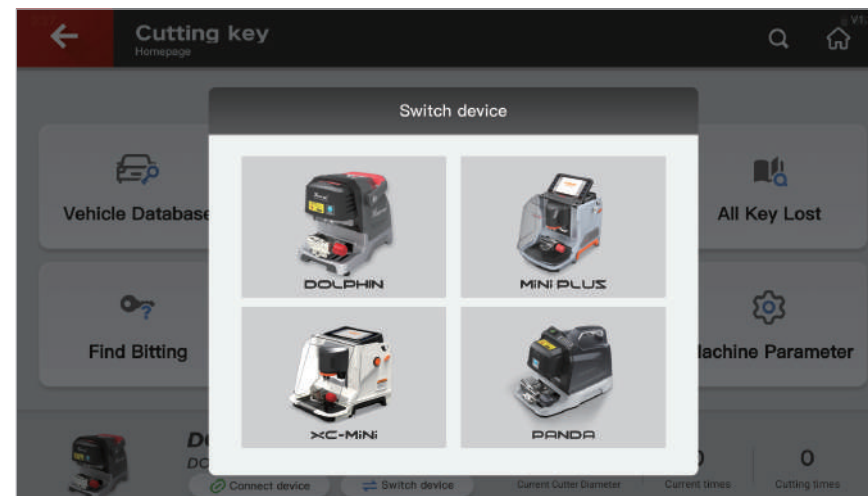

Fig.9.1.1
- ① Click 'Switch device', select the machine you need as shown in Fig. 9.1.1. Machines that are compatible with KEY TOOL PLUS include DOLPHIN, MiNi PLUS, XC Mini and PANDA.